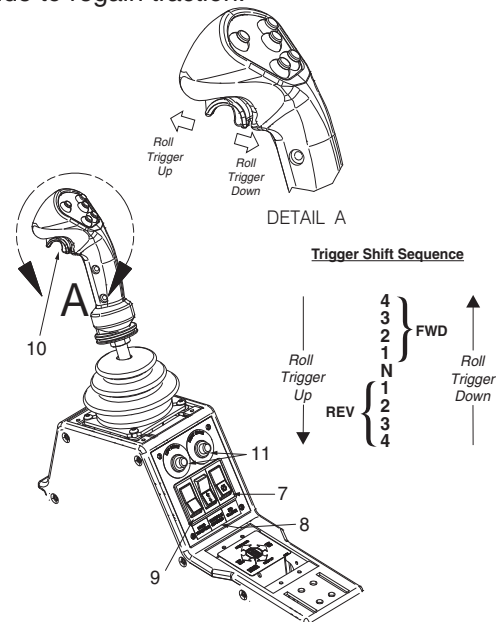

Figure 3-27 Right Armrest Control Unit
Over rides foot throttle. To engage flip switch into the on position. Used with item 9 (see Figure 3-27).
Adjusts RPM's up or down when adjacent switch (item 8, see Figure 3-27) is engaged.